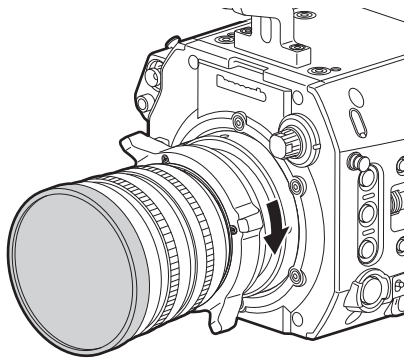

Fig. 3
- 3 Turn the lens fixing ring to securely fix the lens. (Fig. 3)